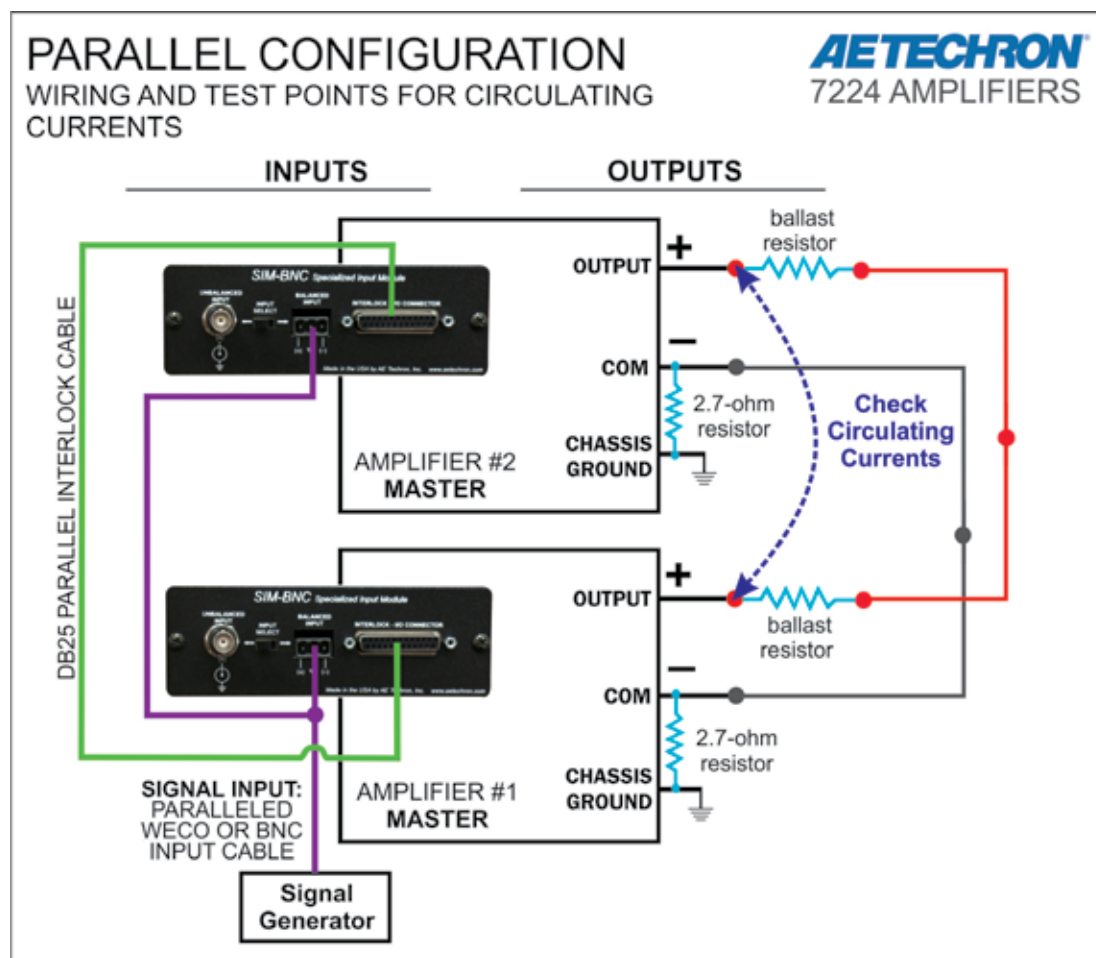

Figure B.2.29 – Wiring and Test Points for Circulating Currents
- B. On each amplifier, connect one ring terminal end of your RED output cable to the ballast resistor on each amplifier back panel. See **Figure B.2.29**. Note: Do not connect the LOAD at this time.